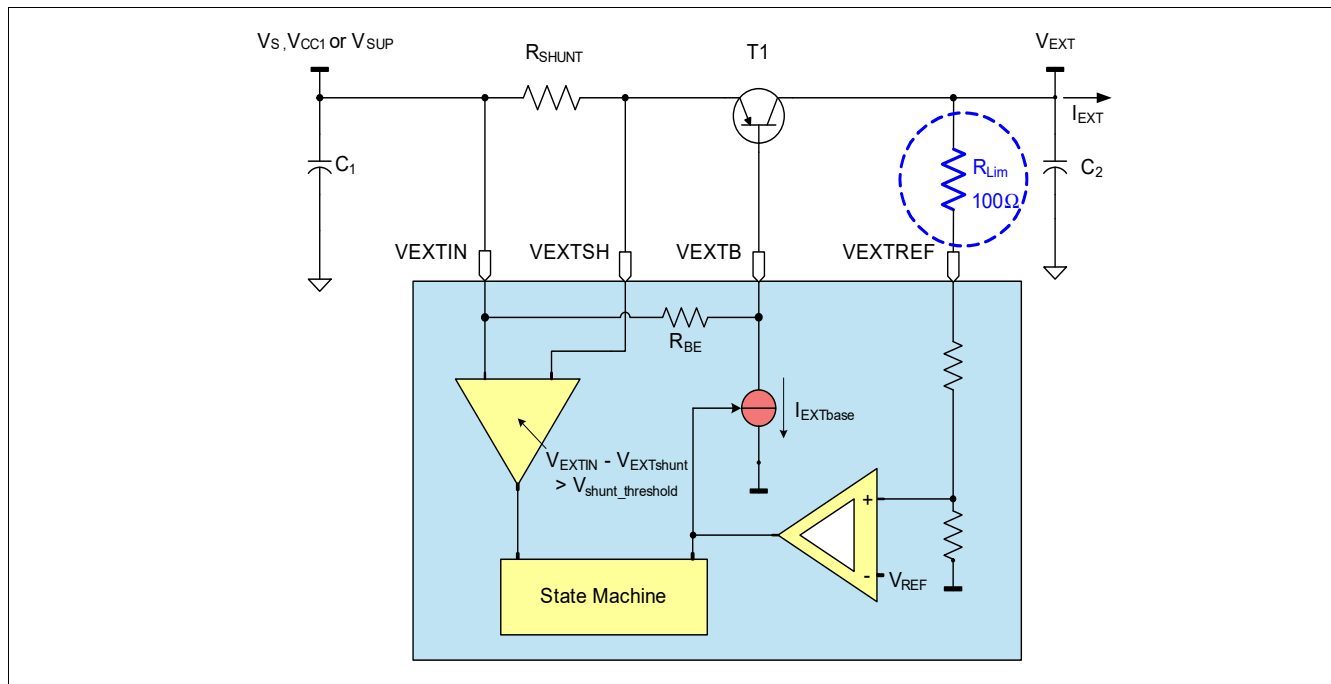

Figure 16 VEXT Hardware Setup
*Note: If the VEXT output voltage is supplying external off-board loads, the application must consider the series resonance circuit built by cable inductance and decoupling capacitor at load. Sufficient damping must be provided(e.g. series resistor with capacitor directly at device or 100 Ω Resistor between PNP collector and VEXTREF with 10 μF cap on collector (see Figure 16).*
Figure 16 shows the hardware set up used.